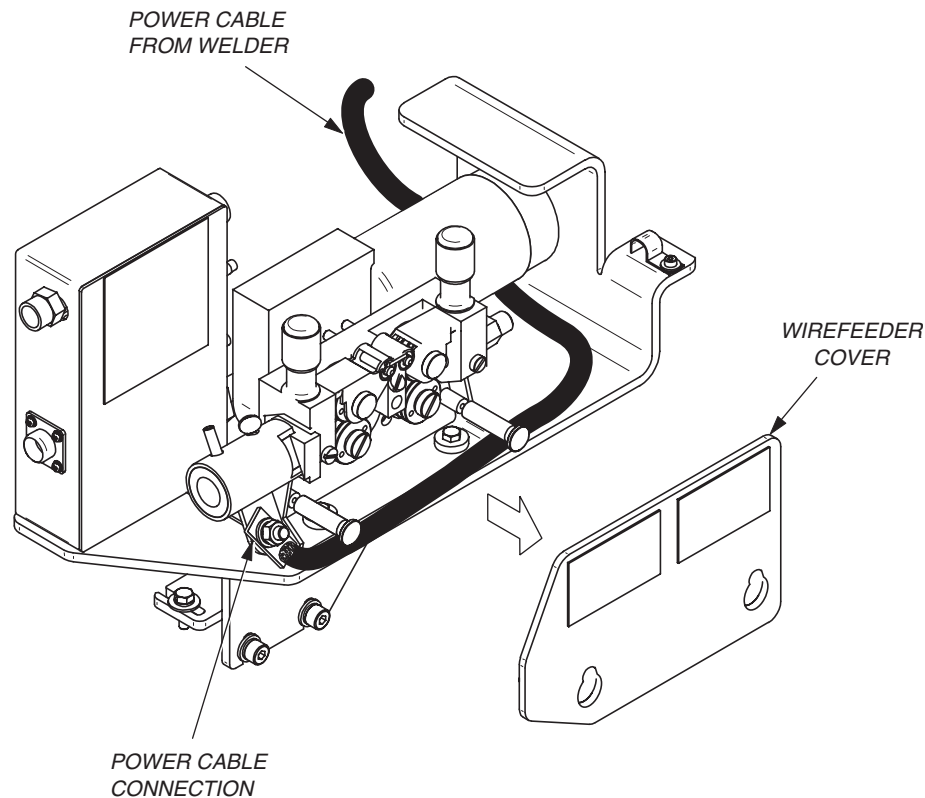

Figure 6 Power Cable Connection
4. Using a 10 mm Allen wrench, remove the bolt and washers from the buss bar connection (see Figure 6).